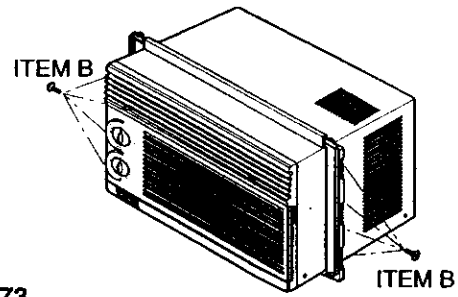

Figure 73
1. Insert the sliding panels (ITEM H) into the guides of the air conditioner. Fasten the curtains to the unit with screws (ITEM B), as shown in Figure 73.